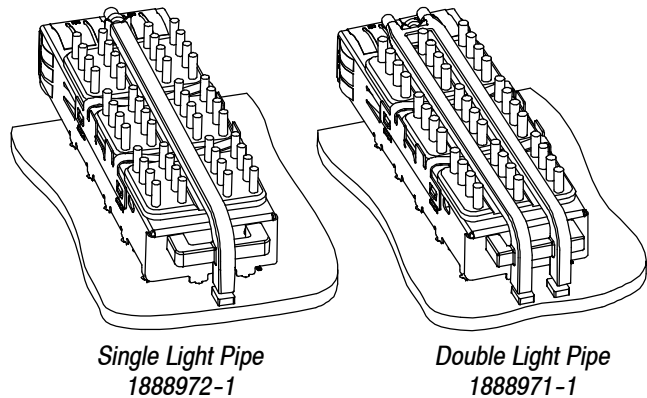

Figure 7
7. If applicable, mount the light pipe so that the pins on each arm fit inside the holes on the rear of the cage. This will require applying slight pressure on the arms to pinch the pins inward. The light pipe should be aligned with the length-wise slots in the heat sink, if a heat sink is installed. The single light pipe, 1888634-1, has a neck that snaps down into the light pipe bracket on cage assembly 1888668-1. The double light pipe, 2007309-1, has a latching pin on the front crossbar that serves the same purpose. The pc board end of the pipe should sit above the indicator LED on the board as shown in Figure 7.